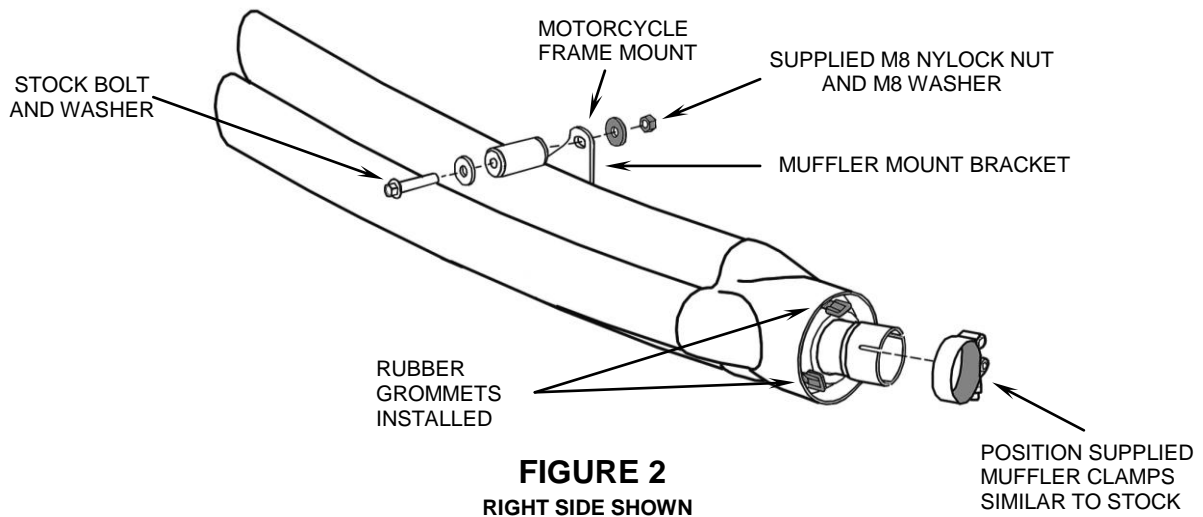

FIGURE 2
3. Remove the stock exhaust gaskets from the original mufflers and place them into the supplied mufflers. Remove the rubber tab grommets from the front of the stock mufflers and place them on the tabs located on front of the supplied muffler assemblies (see Figure 2 and 3).
4. Slide the supplied clamps onto the mufflers and orient them as shown in Figure 2.
6. Insert the stock bolt thru the stock washer, frame mount, muffler mount bracket, supplied M8 washer and into the supplied M8 nylock nut; do not tighten at this time. (See Figure 2).